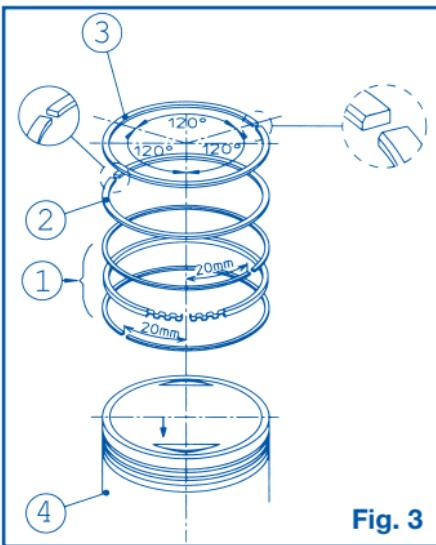

Fig. 3
- Fit the scraper ring expander in the special piston groove, then complete the scraper ring assembly by fitting first the lower and then the upper scraper ring (Fig. 3 - Part 1).
- Fit the second piston ring with the printing turned towards the piston upper part as indicated in Fig. 3 - Part 2.
- Insert the first chromed compression piston ring with the printing turned towards the piston crown as indicated in Fig. 3 - Part 3.
- Position the piston rings openings as shown in Fig. 3.
- Recheck that the piston rings openings are positioned as shown in Fig. 3.